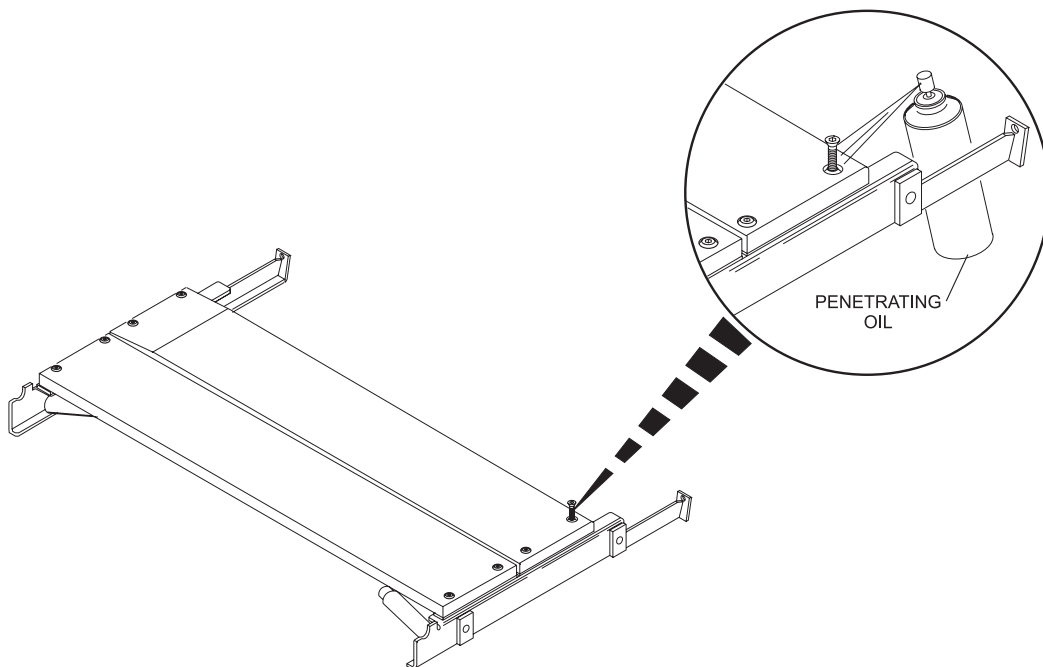

Figure 2
4. After the T-band board bolt is loose, if the T-band board bolt is still difficult to remove, apply more penetrating oil and wait an additional 15 to 30 minutes. Refer to *Figure 2*.